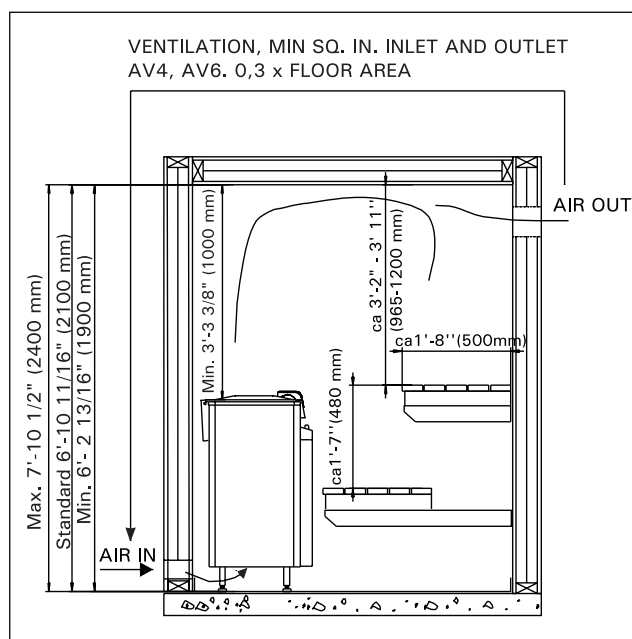

Figure 4. Sauna room
Outlet ventilation openings shall be located at the top of the wall, as close to the ceiling as possible, and shall comply with the minimum size requirements for inlet ventilations openings. See fig. 4.
Table 1. Installation details of a AV heater. See fig. 4 and item 2.3. "Heater output"
7. Is ceiling higher than in figure 4?